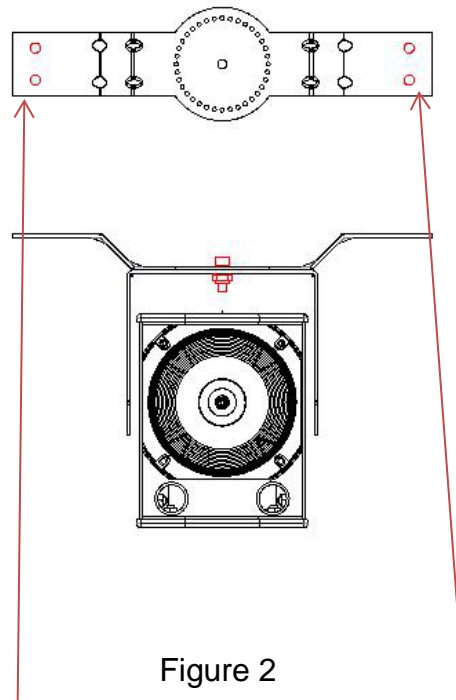

Figure 2
The ceiling bracket is mounted to a ceiling surface using the four (4) holes shown in red in Figure 2 (below).
Figure 2 (above) shows the four (4) mounting locations to join the ceiling bracket to a ceiling surface. These four mounting locations are designed to allow M10 diameter hardware. The ceiling bracket section should now be mounted to the ceiling surface.
**IT IS NECESSARY TO USE ALL FOUR (4) MOUNTING HOLES TO ENSURE A SAFE AND SECURE MATE TO THE ASSOCIATED SURFACE!**